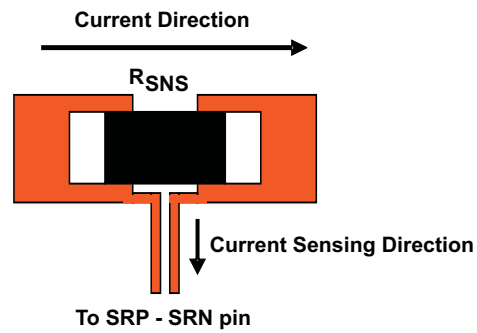

Figure 18. Sensing Resistor PCB Layout
4. The charging-current sensing resistor should be placed right next to the inductor output. Route the sense leads connected across the sensing resistor back to the IC in same layer, close to each other (minimize loop area) and do not route the sense leads through a high-current path (see Figure 18 for Kelvin connection for best current accuracy). Place the decoupling capacitor on these traces next to the IC.